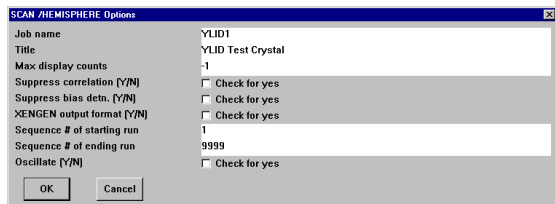

Figure 4-33. Data collection options
1. From the SMART program, click Acquire > Hemisphere. SMART displays the data collection options (Figure 4-33).